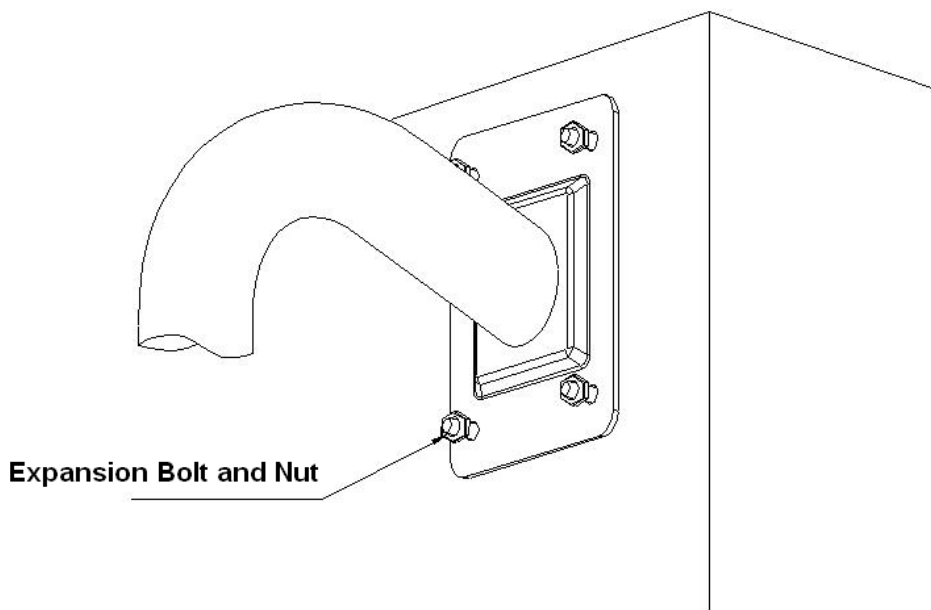

Figure 4-3
- 3) Dig holes in the wall according to the installation holes at the bottom of the wall mount bracket. Please make sure the cable exit of the bracket is facing the round hole of the wall. Insert expansion bolts (not provided) to the holes you just dug. Connect the composition cable and then pull it through the hole in the wall. Use four hex screws and flat washer to secure the bracket on the wall of the expansion bolts. See Figure 4-3.